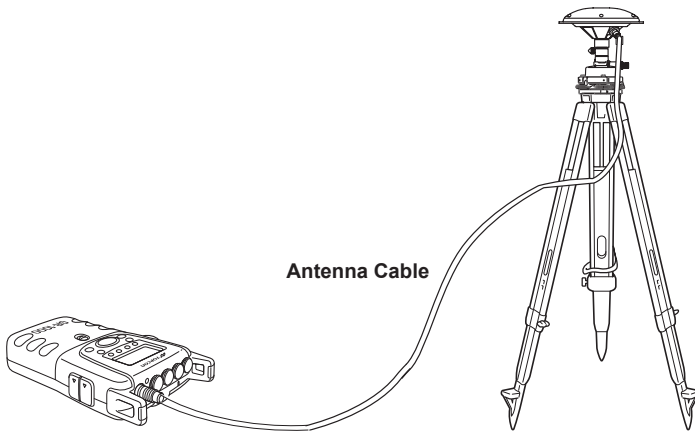

Figure 2-22. Connect GB-1000 and Antenna
1. Connect the cable to the GB-1000's antenna port (Figure 2-22).
2. Connect the cable to the PG-A1's antenna port (Figure 2-22).